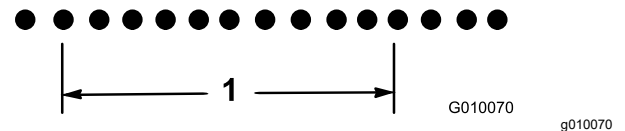

Figure 70
18.8 divided by 10 is 1.88, hole spacing is short by 0.12 inch from nominal (Figure 70).